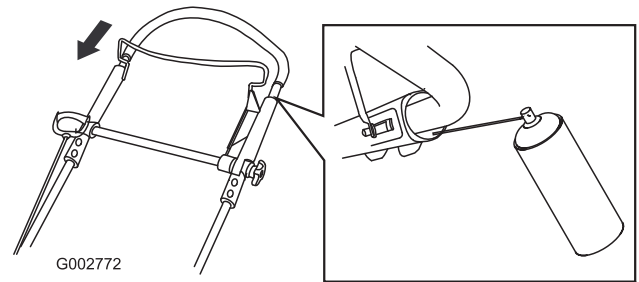

Figure 43
- Push the upper handle fully down and spray the inner plastic surface of the outer handle (Figure 43).